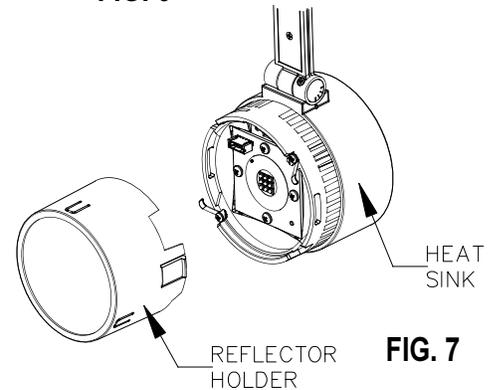

FIG. 7
2. Orient the REFLECTOR HOLDER as shown in (FIG. 7), so that the SNAP FEATURES are aligned with the slots located on either side of the front of the HEAT SINK.